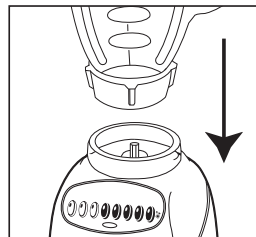

FIGURE 5
6. Place jar assembly onto base. (*Figure 5*)